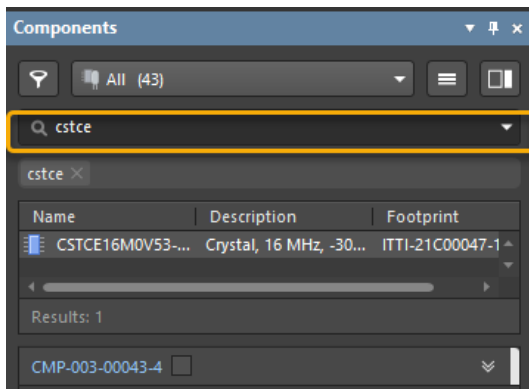

Figure 14. Place Crystal
27. Next find and place the crystal CSTCE16M0V53-R0, by using the search option in the Components panel, see Figure 14.